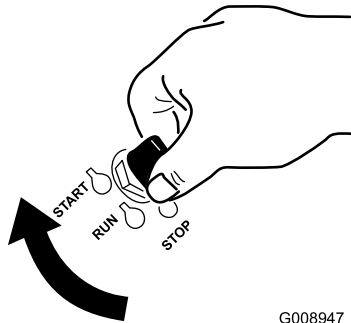

Figure 21
1. Turn the key to the START position (Figure 21).